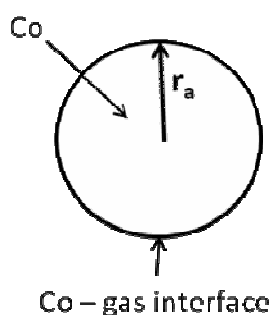

Fig. 1
Catalyst (e.g. cobalt) is often used in the form of solid nanoparticles that have a spherical structure (fig.1). The reduction in size of the catalyst increases catalytic activity significantly. The unwanted side-reaction however involves the oxidation of the catalyst:
- 2.2 Calculate the equilibrium constant for reaction (1) when the cobalt catalyst is dispersed in the form of spherical particles (Fig. 1) of radius:
(b) spherical nanoparticles with $r_a = 1$ nm (Fig. 1).